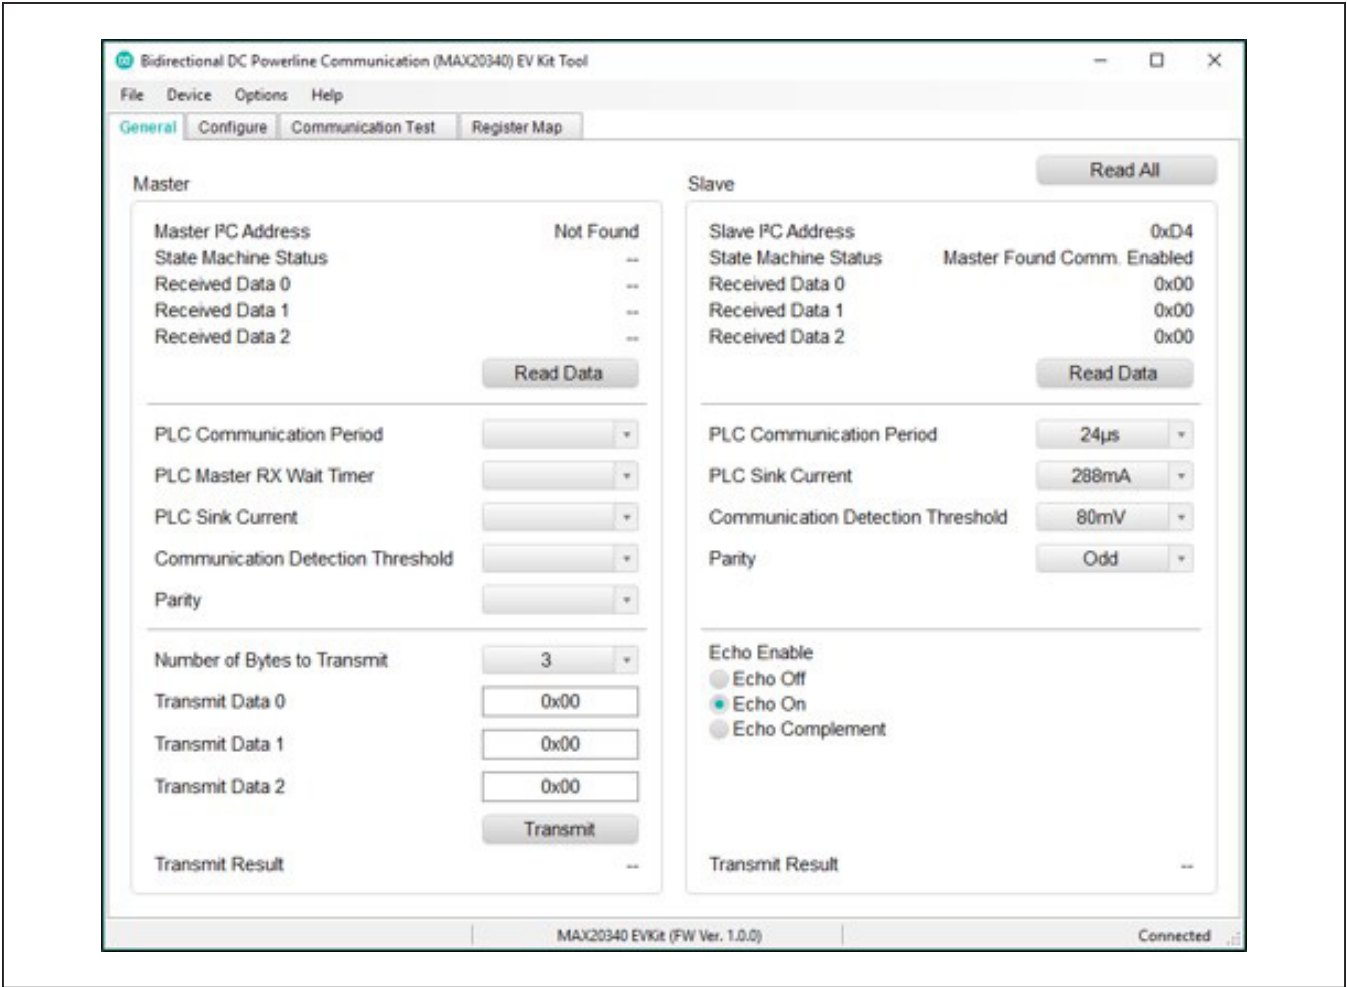

Figure 9. MAX20340 EV Kit GUI Connected to the Slave Only Board.
- connects to the “Slave Only” board and the single slave is found automatically. Since there is no master connected to the PLC and GND pins on this board, the GUI shows “Not Found” for the master. The application should appear as shown in Figure 9.